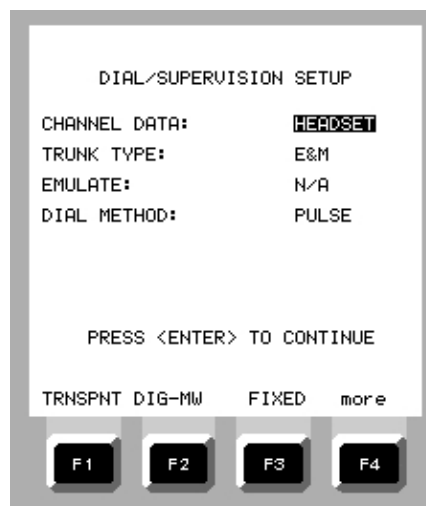

Figure 2-101. DIAL / SUPERVISION SETUP
- On the DIAL/SUPERVISION SETUP menu (Figure 2-101), the following selections are available: